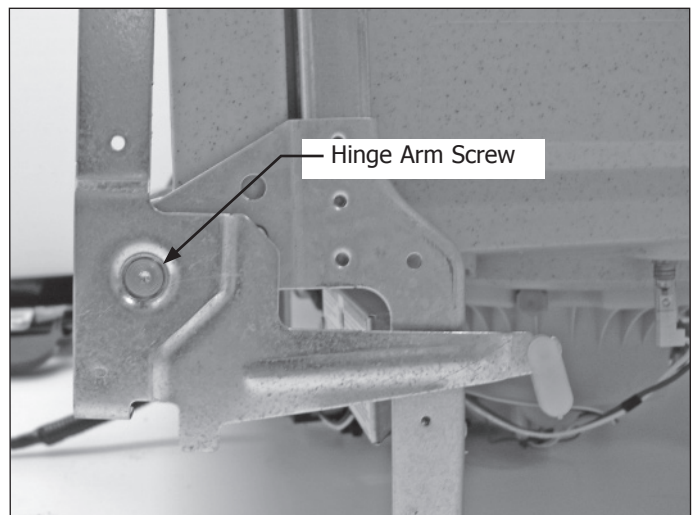

Figure 4-13.
3. Using a Torx T-25 bit, extract the screw that passes through the hinge arm and fastens to a connecting rod. (See Figure 4-13) Repeat on opposite side to remove opposite hinge arm and to free the connecting rod from the unit.